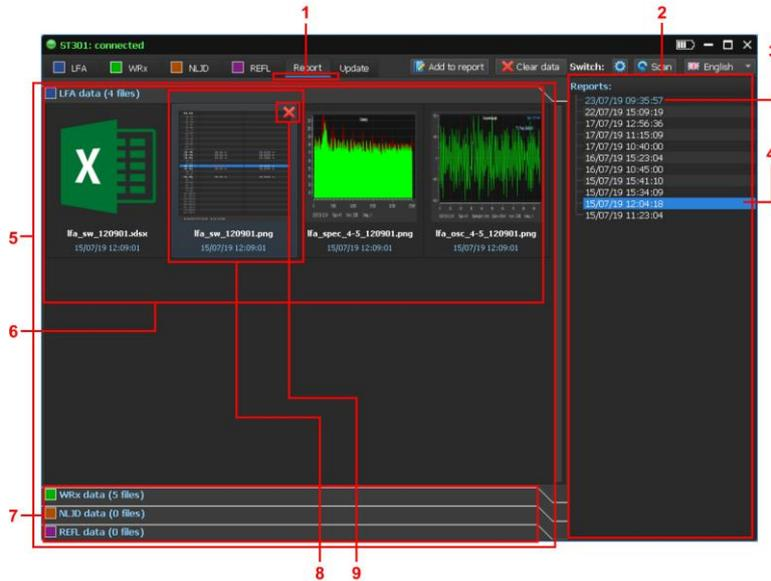
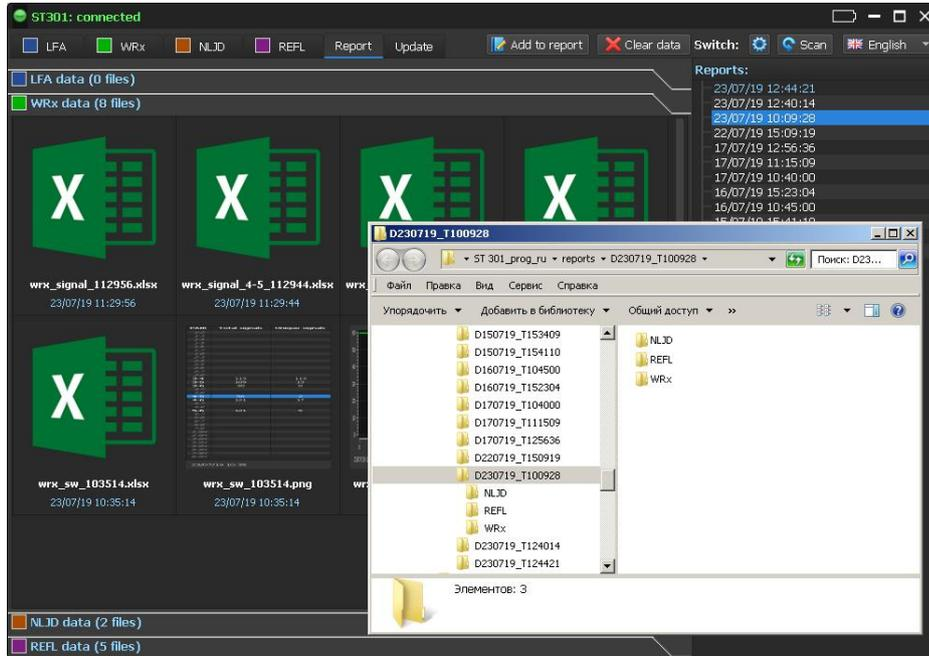

Fig.67
Fig.68
To view the saved files, click **Report** (Fig.67, item 1).
In Fig.67:
On the left side of the screen (Fig.67, item 5) will be displayed:
- screenshots and tables of a saved session of the device (Fig.67, item 6). In Fig. 67 - LFA
- three bookmarks for displaying information on other devices (Fig.67, item 7)
It is possible to work with files in Windows Explorer. To do this, double-click on one of the sessions (Fig. 67, item 2) and go to the desired folder (Fig. 68).